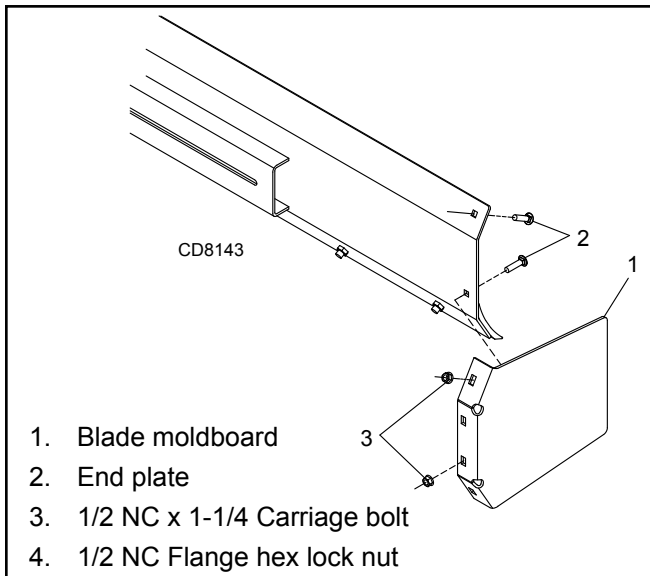

Figure 17. End Plate Installation
1. Assemble parking stand holder (1) toward center of frame assembly using 3/8 NC hex cap screw (3), 3/8 flat washers (4) and secure with 3/8 NC hex nut (5). Do not allow parking stand holder to cover any portion of safety decal. Figure 17.